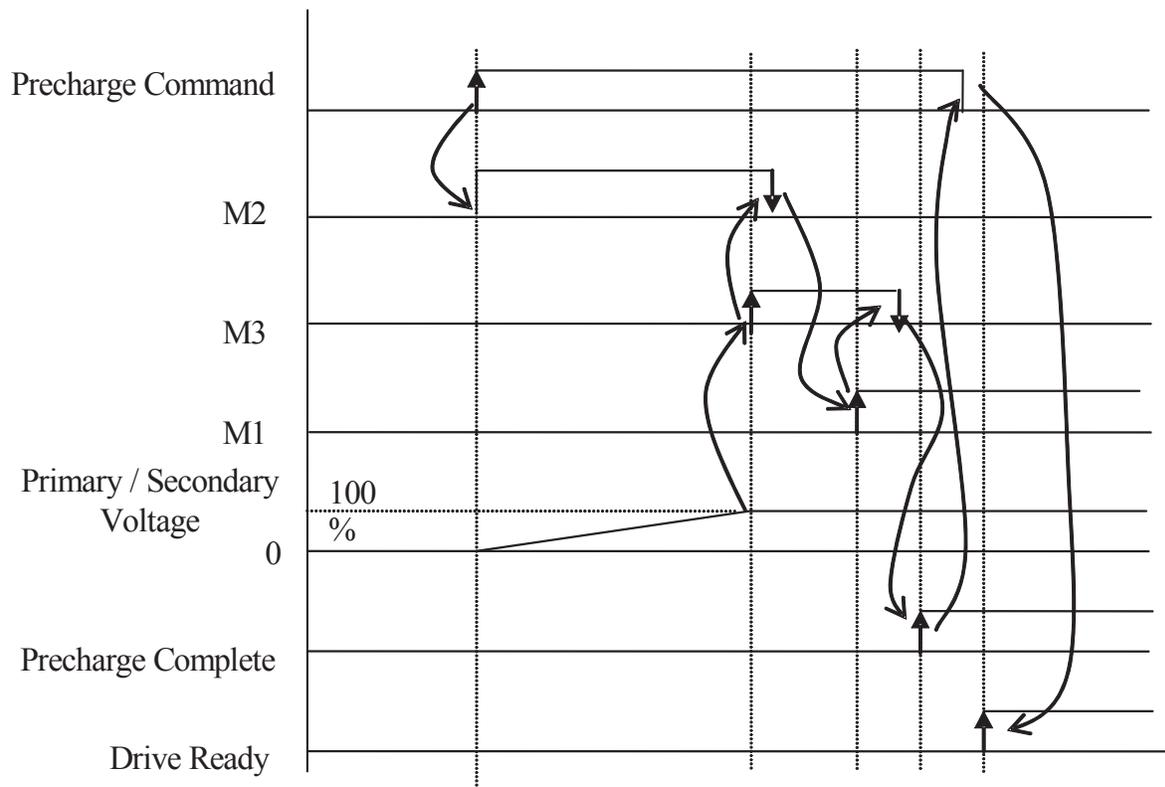

Figure 5-30: Type 1 Precharge
8. The Precharge command from the customer must be removed after Precharge Complete is set and when VFD Ready (not shown in Fig. 5-30) is issued. Failure to remove the command will result in a Precharge timeout Precharge Fault.